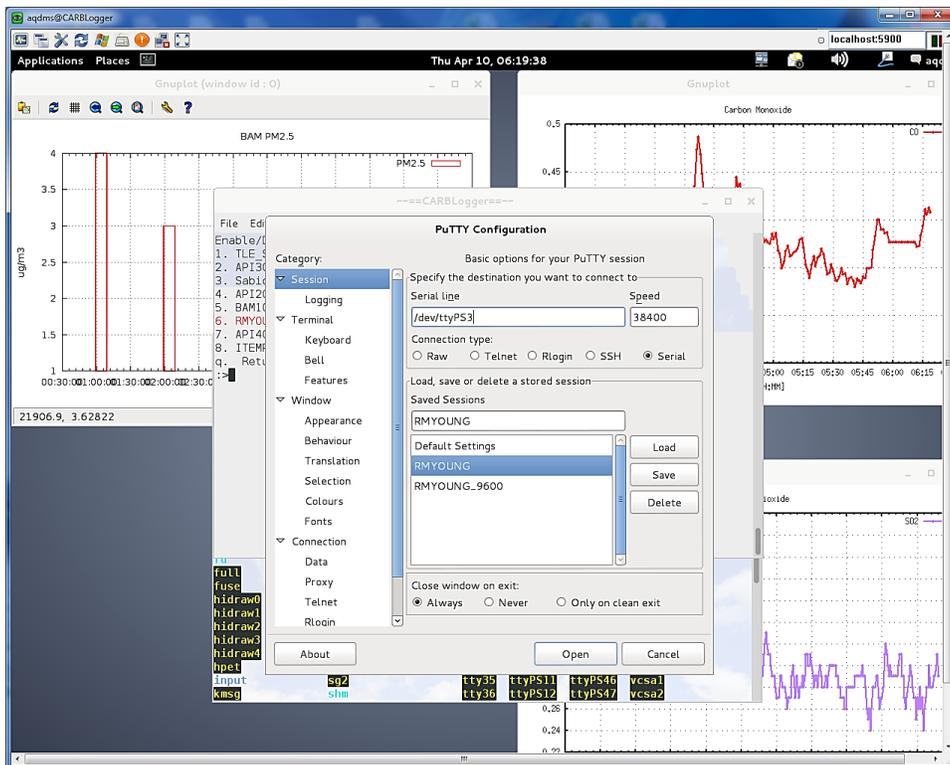

Figure C2: Setting up the PuTTY SSH Client
- Tick the **Serial** radio button, or the telnet button for an ethernet connected device, and enter in the serial port and baud rate of the device you wish to communicate with, then press on the [Open] key. Refer to Figure C2 below.
- Tick the **Telnet** radio button and enter in the serial port and baud rate of the device you wish to communicate with, then press on the [Open] key. Refer to Figure C2.